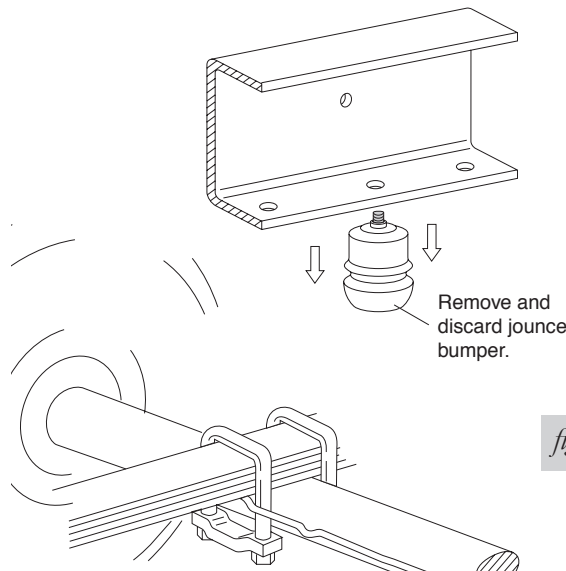

fig. 4
1. Remove the jounce bumper (Fig. 4). The bellows will mount in place of the jounce bumper.